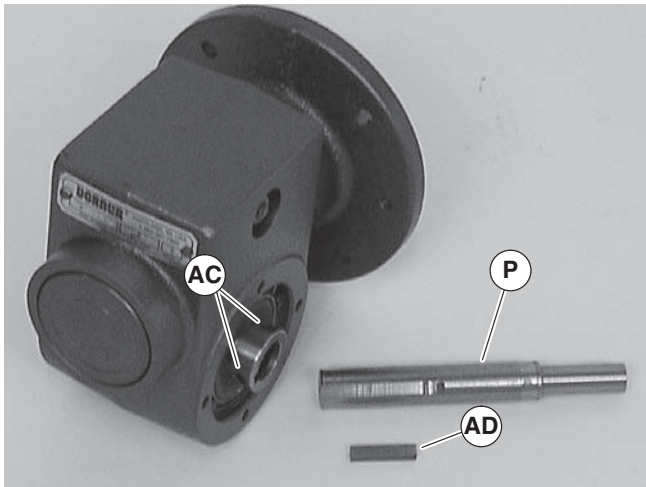

Figure 27
- Remove two (2) screws (AJ) and detach output shaft cover (AI).
- Remove gear reducer output shaft key (I).
- Loosen six (6) set screws (Figure 27, item AC). Remove drive shaft (P) and key (AD).
- Replace the original shaft components into new gear reducer (see Figure 27).